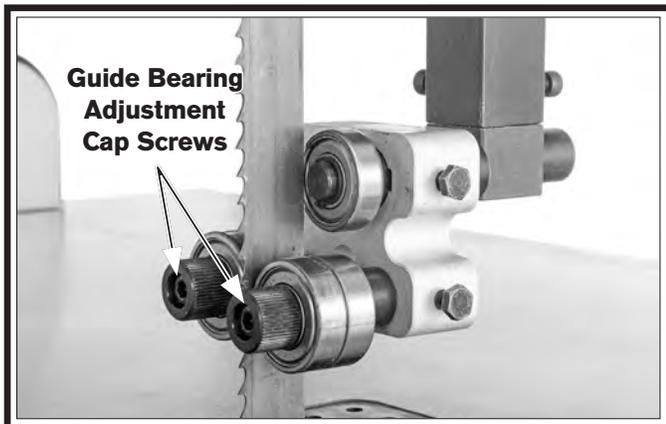

Figure 40. Location of upper guide bearing adjustment cap screws (guide post cover removed for clarity).
- Loosen both guide bearing adjustment cap screws (see **Figure 40**), then position guide bearings so they are close to—but not quite touching—sides of blade.